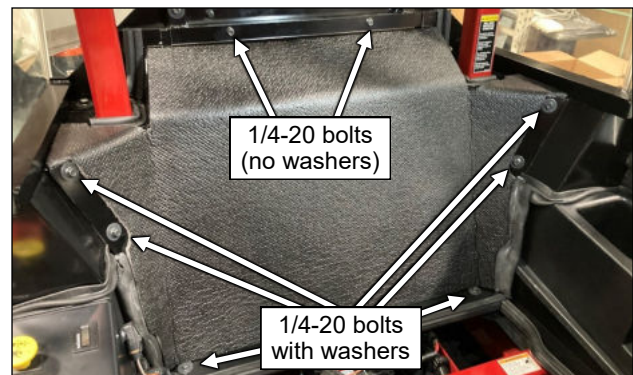

Fig. 11.4 (Lower Rear Panel)
11.4 See Fig. 11.4. Raise the seat forward. Place the lower rear panel inside the cab against the cab panels. Secure the rear panel to the bottom of each under-seat panel with a 1/4" bolt and fender washer. Secure the rear panel to each side frame panel with two 1/4" bolts and fender washers. Secure the top of the rear panel to the rear frame with two 1/4" bolts (no washers here). Tighten all bolts snug.